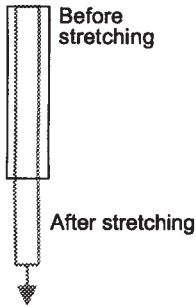

Figure 3.10 Poisson's ratio
3.4 Poisson's ratio When a piece of material is stretched, there is a transverse contraction of the material (Figure 3.10). The ratio of the transverse strain to the longitudinal strain is called *Poisson's ratio*: